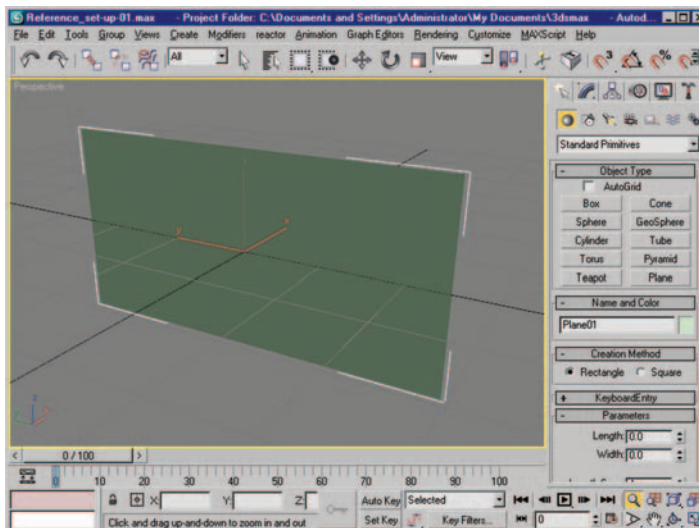

Figure 7.7 Plane object viewed in perspective viewport.
4. With the left viewport still active, hit the P key on your keyboard to switch to the perspective viewport, and zoom into your object a little (scroll wheel on your mouse; Figure 7.7).